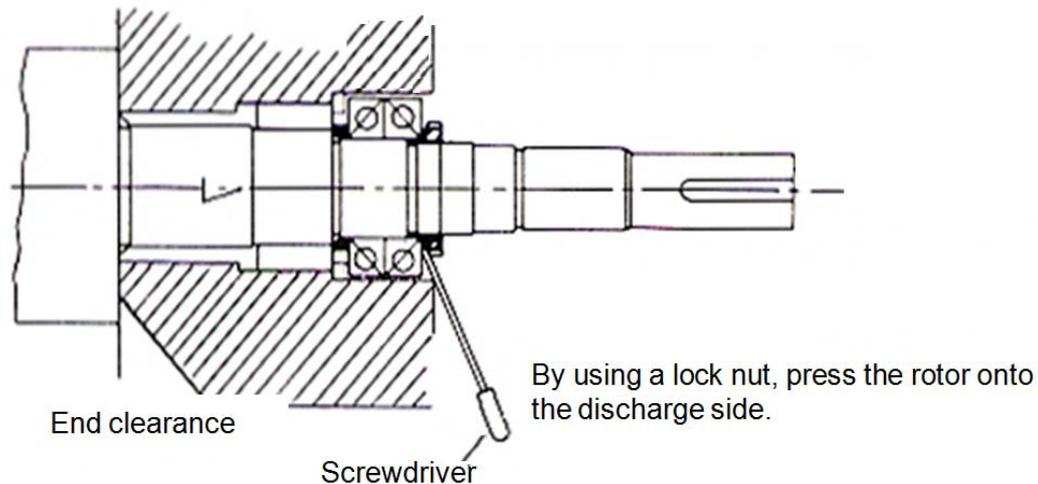

Figure 5-9 End Clearance Adjustment [1]
- a) Push the rotor to the discharge side while the thrust bearing inner race is secured to the rotor axis. As shown in Fig. 073, push the rotor from the suction side using a fixture (Teflon). Alternatively, as shown in Figure 5-9, using the chamfered part of the lock nut, pull out the rotor with the edge of a flat screwdriver.